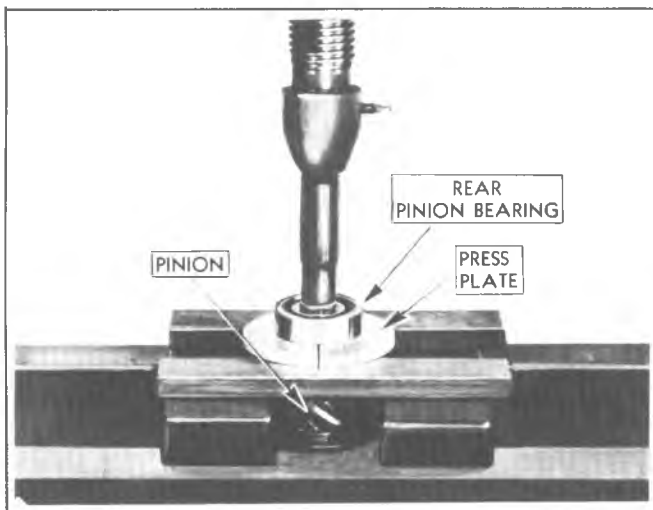

Fig. 2G--Pinion Rear Bearing Removal
5. Remove pinion rear bearing snap ring and press bearing from pinion, using Tool J-1453, as shown in figure 2G.